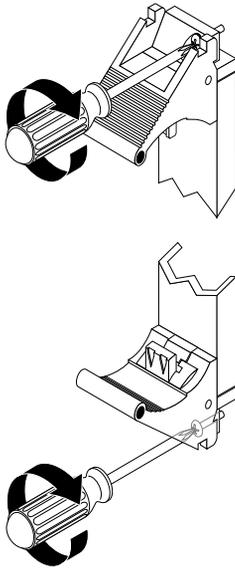

FIGURE 2-22 Tightening the Ejection Lever Captive Screws
9. Using a No. 2 Phillips screwdriver, tighten the two captive screws inside the module's ejection levers, one on top and one on the bottom (FIGURE 2-22). Tighten the screws to a torque of 0.28 N.m (2.5 in.-lb).